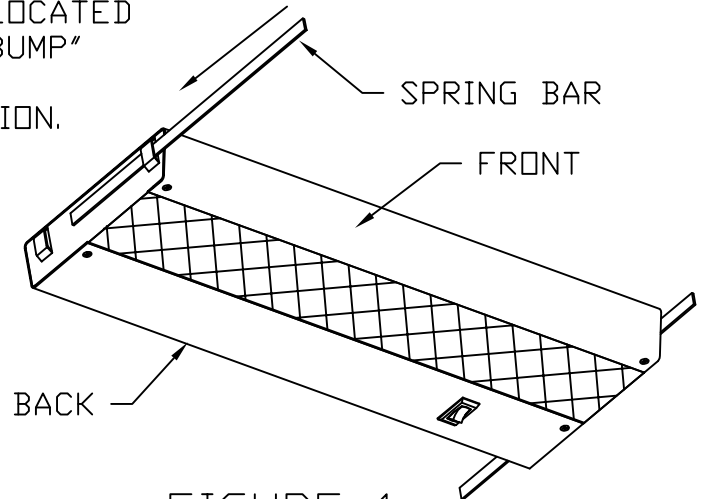

FIGURE 1
2. INSERT SPRING BAR THROUGH SLOTS LOCATED AT EACH END OF LIGHT FIXTURE. A "BUMP" BETWEEN THE SLOTS PREVENTS BARS FROM FALLING OUT DURING INSTALLATION. (SEE FIGURE 1)